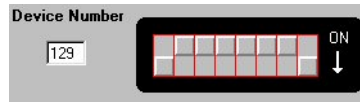

FIG. 12 DIP switch values and quick reference
2. Set the DIP switch according to the DIP switch values shown in FIG. 12.
As an example, the DIP switch in FIG. 12 defines device number 129 ($1+128=129$).